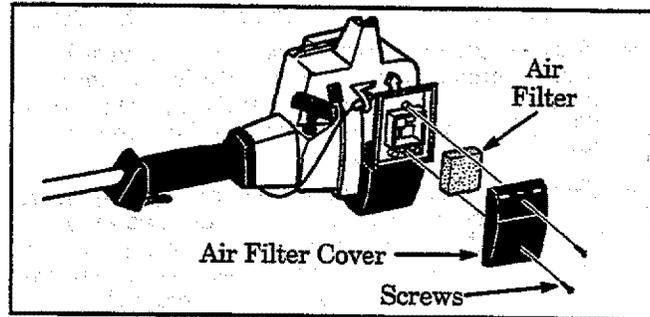

Figure 22
- a. Remove the two screws from the air filter cover. Remove air filter cover. Figure 22 .
- b. Remove the air filter. Figure 22 .